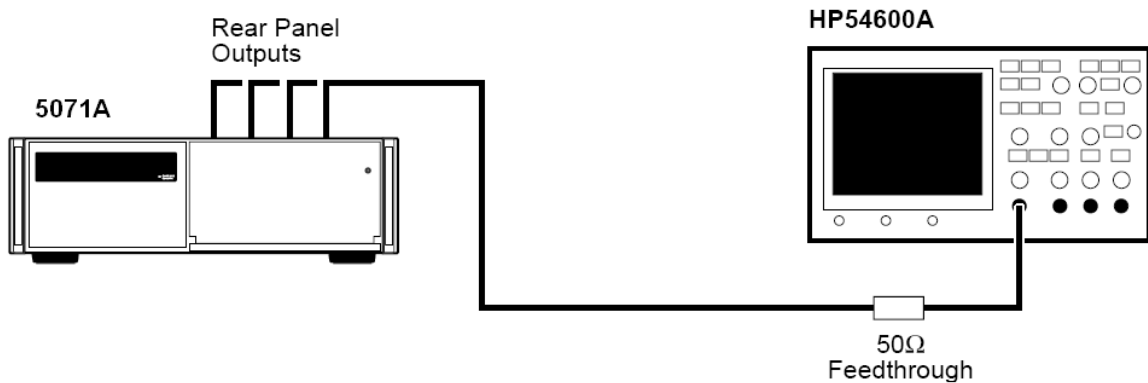

Figure 1-1. Rear-Panel Outputs Verification Setup
- 1 Connect one of the 5071A outputs to an input channel of the HP/Agilent 54600A with a 50- Ω feed through termination and BNC cable as shown in Figure 1-1.